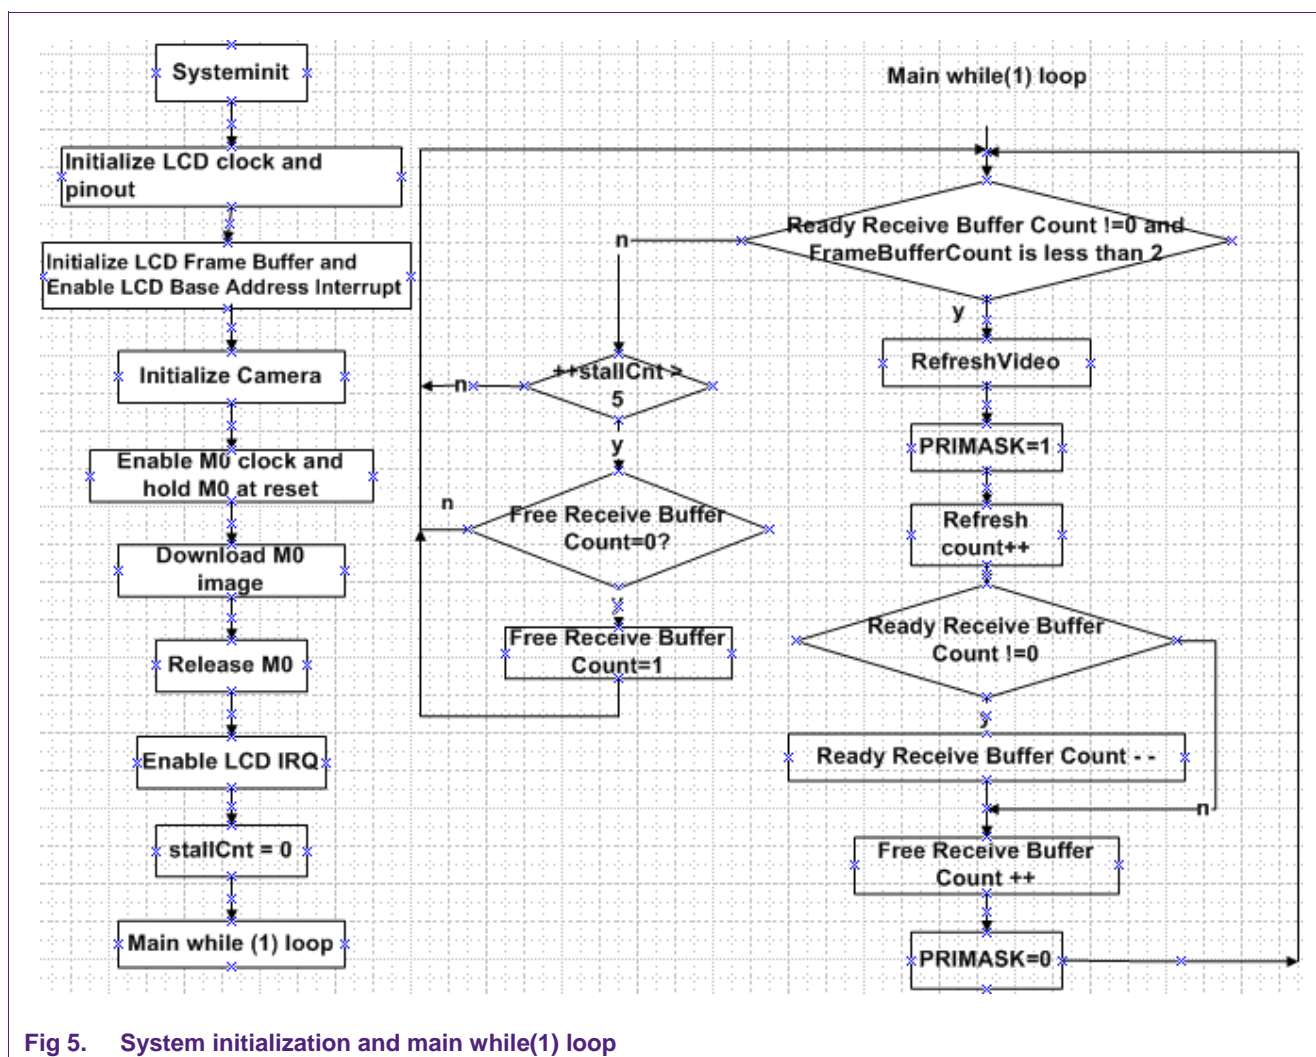

Fig 5. System initialization and main while(1) loop
The flow chart in Fig 5 shows the major initialization of the system and the while (1) loop in main. Notice that the SGPIO initialization is done by the M4 in the camera initialization routine. The M0 only needs to respond to the SGPIO capture swap interrupt routine. After the M0 is released from reset, the SGPIO is ready for video collection. Section 4 of this application note contains more details about the SGPIO camera interface design.